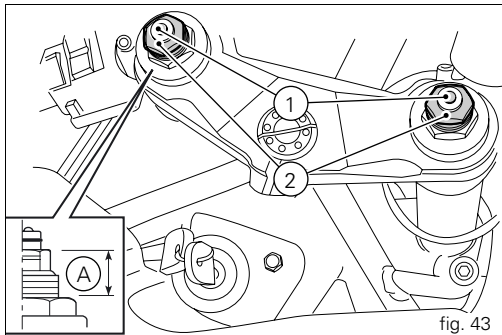

fig. 43
- 1) to adjust rebound damping (fig. 43);
- 2) to adjust inner spring preload (fig. 43);
Spring preload (A, fig. 43): 18 mm.
To change the spring preload for each fork leg, turn the adjuster (2, fig. 43) with a 22 mm hex wrench.